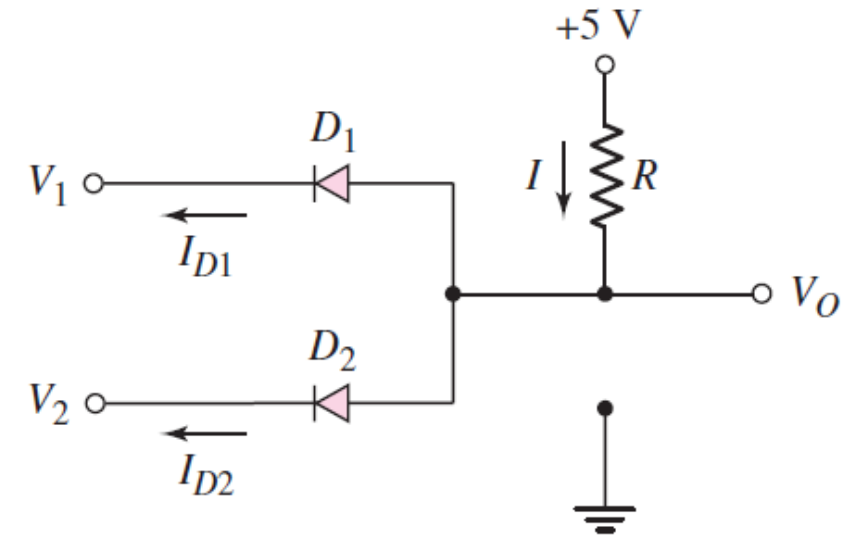

Figure 2.42
- The circuit of Figure 2.42 is a **two-input diode AND logic circuit**.